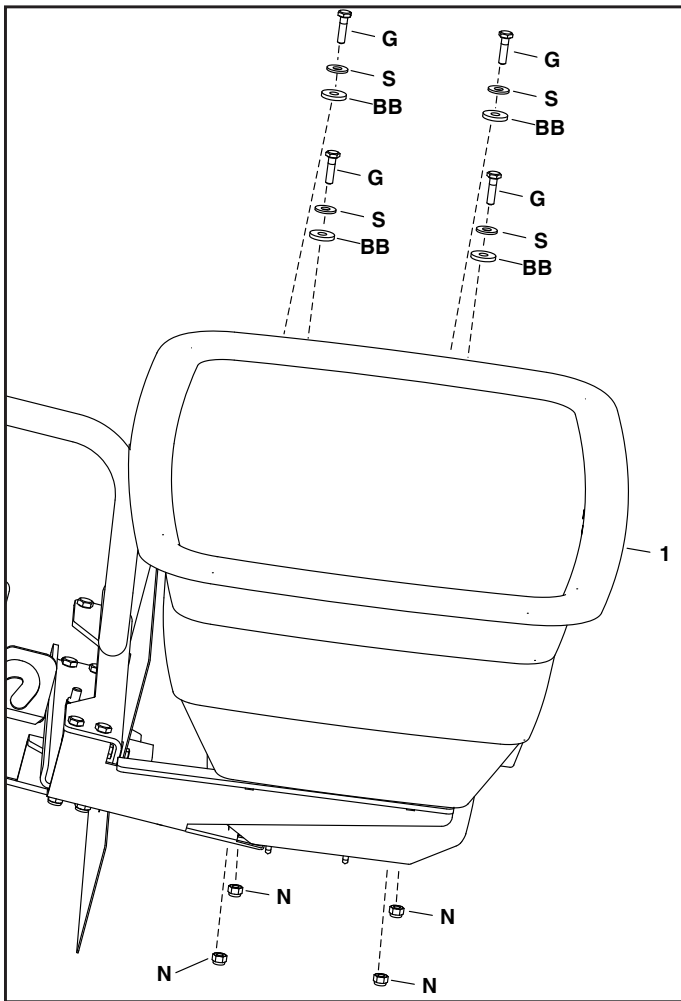

FIGURE 14
STEP 14: (SEE FIGURE 14)
- Place the hopper (1) onto the spreader assembly with the side with the control cable (3) facing towards the mower.
- Install four hex bolts (G), washers (S), and nylon washers (BB) through the inside of the hopper and the hopper mount brackets.
- Secure the four bolts (G) with four nylock hex nuts (N) and then tighten hardware.
- Slide the control cable (3) up through the split on the bottom center of the rear deflector (12) until the cable sets freely in the slot.